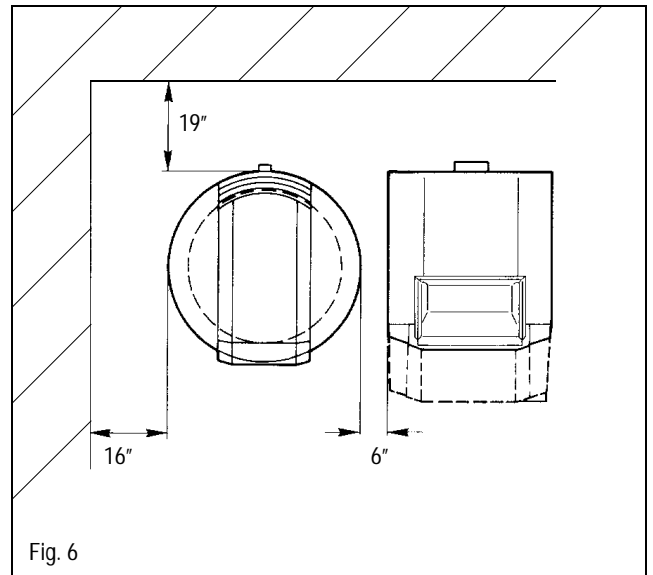

Fig. 6
- Refer to recommended clearances for adequate access for piping, pumps and service (Fig. 6).